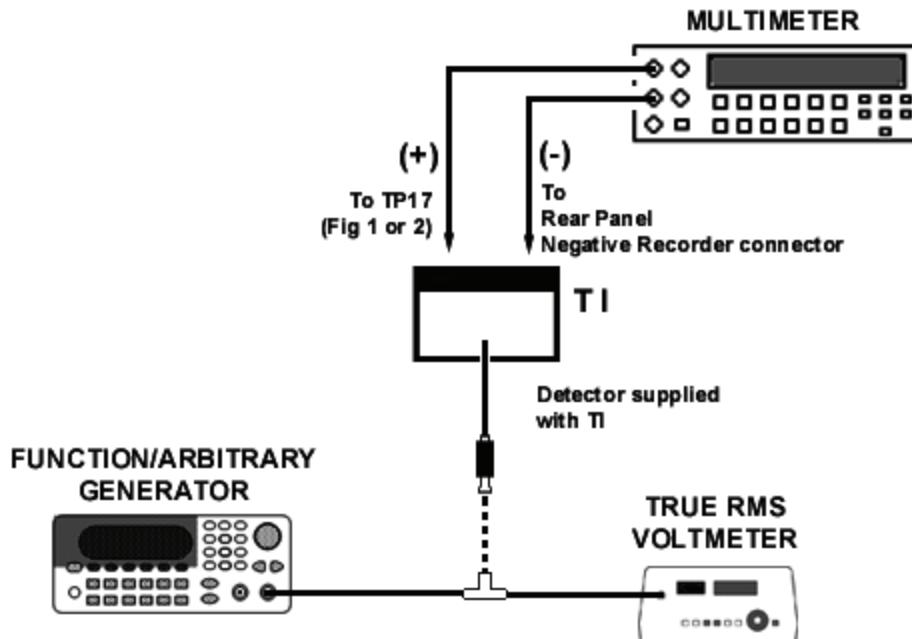

Figure 3. Main gain - equipment setup.
- (1) Zero TI meter as described in paragraph **7 h** above.
- (2) Remove top protective cover from TI.
- (3) Connect equipment as shown in figure 3.